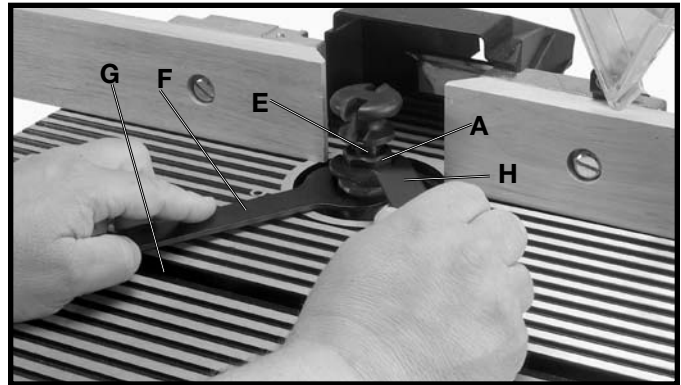

Fig. 29
5. Clean and insert shank of router bit (E) Fig. 29, into collet (A) or adapter sleeve until it bottoms, then back out router bit approximately 1/16 inch.
6. Place wrench (F) Fig. 29, on flats of spindle assembly to keep spindle from turning during router bit installation.
**NOTE:** Spindle wrench (F) Fig. 29, features a round protrusion on one side that makes installation easier. With the open end of wrench (F) Fig. 29, on the flats of the spindle, rotate the wrench until the protrusion slides into the miter gage slot (G) as shown. Place the other wrench (H) on flats of the collet and turn wrench clockwise to tighten router bit in spindle assembly. **CAUTION:** Table ridges may be sharp. To avoid personal injury, we suggest that wrenches (F) and (H) supplied with your machine be used when installing and removing router bits.